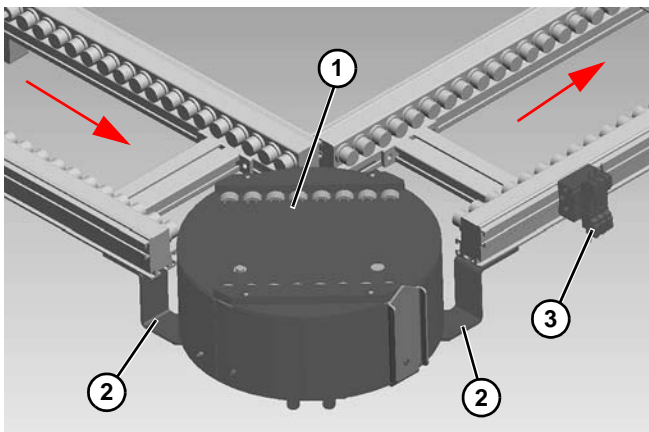

Figure 71
1. Install and adjust turn and transfer module (Figure 71, item 1).
2. Connect transfer conveyor with connecting brackets (Figure 71, item 2).
3. Install and connect pneumatic solenoids (Figure 71, item 3), provided by others.